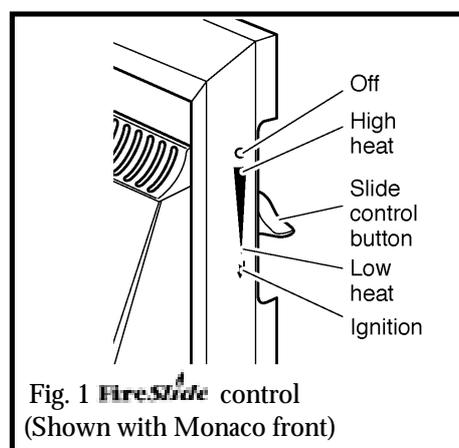

Fig. 1 FireSlide control
The **FireSlide** control is shown in figure 1.
3. If low heat is required, release the button. The button will automatically spring up to the low heat position shown in figure 1 (See note i below).
4. For a higher heat level slide the button upwards. The burner flames and heat output will gradually increase until the button reaches the high heat position shown in figure 1. When the button reaches the high heat position you will feel a check to its movement. ***Do not slide the button above the high heat position unless you want to turn the fire off*** (See note i below).